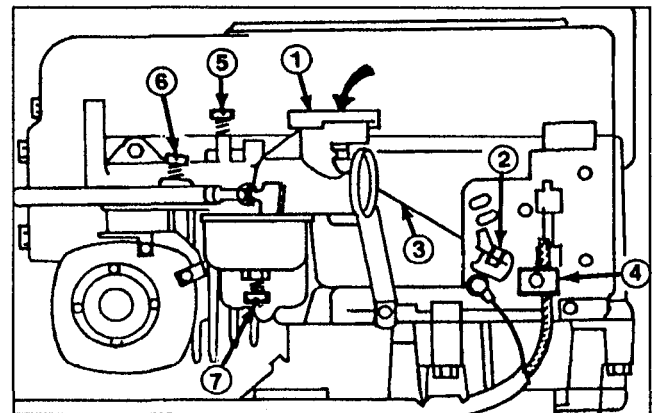

Figure 25
1. Remove the screws holding air cleaner in place and lift complete air cleaner assembly off carburetor (Fig. 25).
2. Move throttle control lever to CHOKE position and check the position of the choke butterfly; it should be fully closed (Fig. 25).
3. Move throttle control lever to FAST position. The butterfly should be in the fully open position (Fig. 25).
2. Loosen the throttle cable clamp screw (Fig. 25) and move the control cable casing and wire until the throttle lever touches choke link.
1. Needle Valve (Fig. 25) — Close valve by gently rotating it clockwise.
2. Rotate — open — the needle valve 2 turns counterclockwise (Fig. 25).
4. Rotate needle valve (Fig. 25) clockwise, 1/8 turn at a time, until engine starts to lose speed. Let engine react to each 1/8 turn setting.
5. Rotate needle valve (Fig. 25) counterclockwise — out — 1/8 turn at a time, until engine first runs rough. Let engine react to each 1/8 turn setting.
6. Rotate needle valve (Fig. 25) clockwise — in — very slowly until engine starts to run smoothly. This setting, under no load, may be slightly rich; however, the slightly rich setting will ensure proper operation when engine is under load.